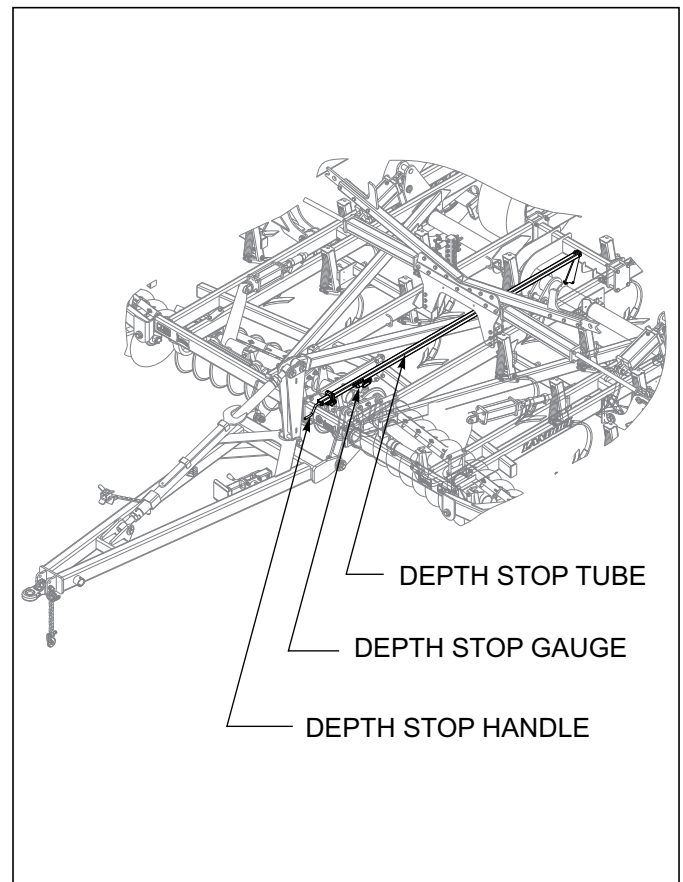

Figure 4-14: Depth Stop Adjustment
1. Adjust the depth stop by turning the handle in (clockwise) to increase operating depth (See **Figure 4-14.**) Turn the handle out (counter-clockwise) to decrease operating depth. One turn will equal approximately 3/16" adjustment in depth.